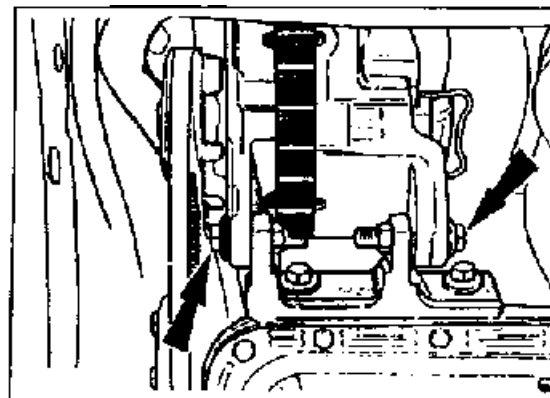

Fig a1 - Alternator mounting bolts
3. Loosen the main alternator mounting bolts. (Fig. a1)